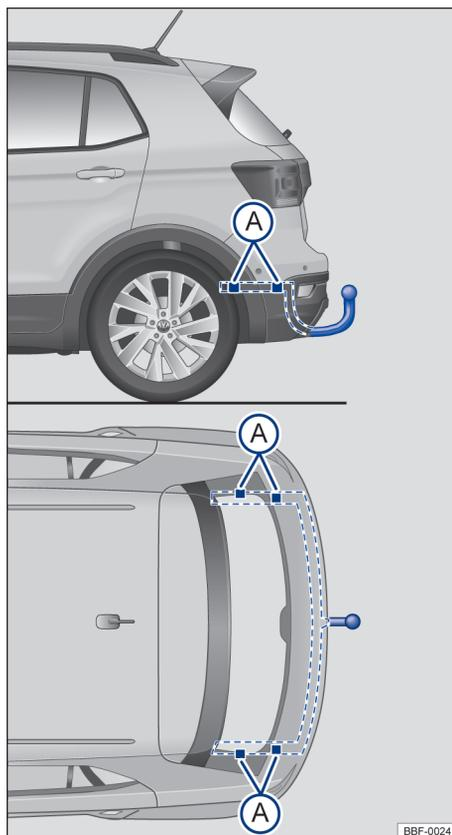

Fig. 148 Attachment points for retrofitting a towing bracket.
Figure → Fig. 148 illustrates as an example the fastening point to install a towing bracket on the T-Cross model.
Towing bracket retrofitting must be executed in accordance with the instructions provided by the bracket's manufacturer, always considering the attachment points indicated in → Fig. 148 (A).